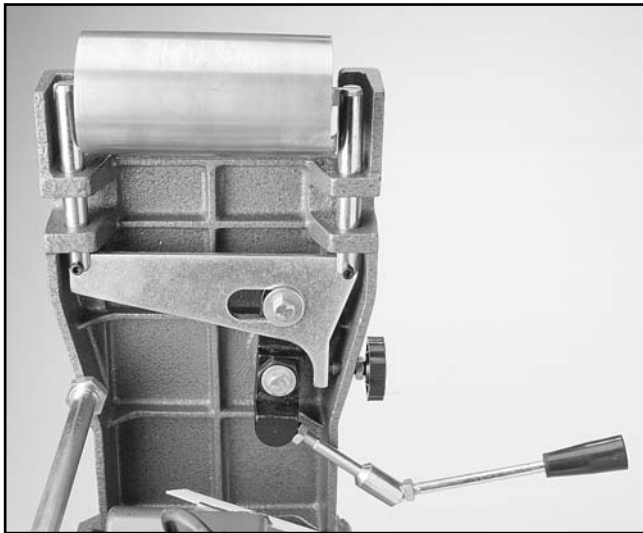

Figure 14.
1. With belt installed and quick release lever engaged, loosen Hex Bolt, PN # 91 slightly. **Figure 14.** Note: Figure 14 is depicted with the belt removed for illustration purposes only. Normally steps 1-4 are done with the belt installed.